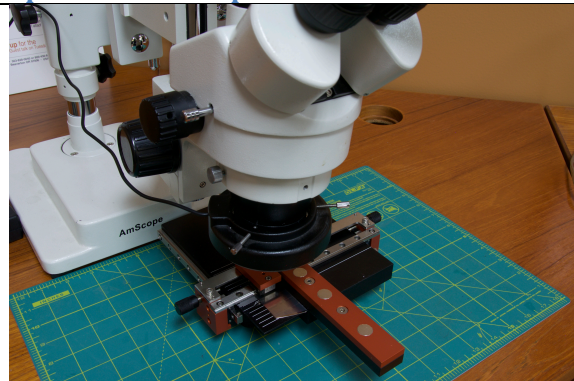

Figure 4 FlipScribe positioned for viewing with the stereoscope.
1. Although not required, it is very useful to use the Flipscribe with an optical microscope (See Figure 4), especially when setting the height of the diamond scriber (If you are not using a microscope, go to Step 8 and review the tip on how to mark the scriber tip prior to setting the tip position).